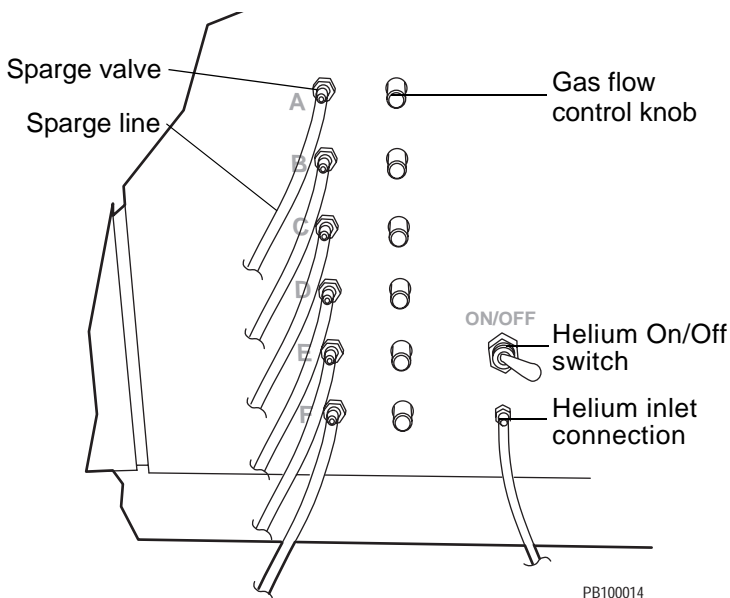

Figure 2-3 Sparge Panel Connections
1. Using Teflon tubing (1/16-inch ID, 1/8-inch OD), connect the helium source to the fitting labeled Helium on the right side of the system. The fitting is also labeled with the appropriate pressure, 5 psi max (Figure 2-3).
Connect the buffer/solvent bottles to the buffer/solvent pump system and the sparge panel (see Figure 2-3).
2. On the right side of the workstation, set the Helium On/Off switch to the **On** position (see Figure 2-3).
3. Open the sparge valves for the reservoirs in use by turning the gas flow control knobs on the right side of the workstation (see Figure 2-3). Open the valves until you see a steady stream of bubbles in the reservoir.